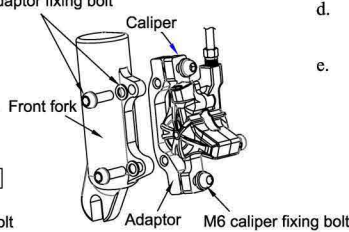

FIG.2
- 3-1 In installing Bengal Hydraulic Disc Brake, tighten the qualified adaptor on the front fork or frame by M6 adaptor fixing bolts with locking torque at 8-10 Nm (71-89 in.lbs)(As shown in FIG.2).
- 4-1 Install the calipers on the adaptor by M6 caliper fixing bolts loosely and let calipers be able to swivel left and right for adjusting its position. (As shown in FIG.2)